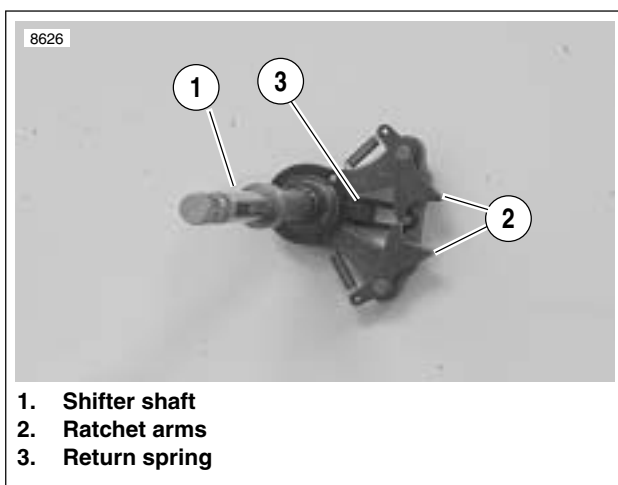

Figure 6-48. Shifter Shaft Assembly
10. See Figure 6-48. Remove shifter shaft assembly.